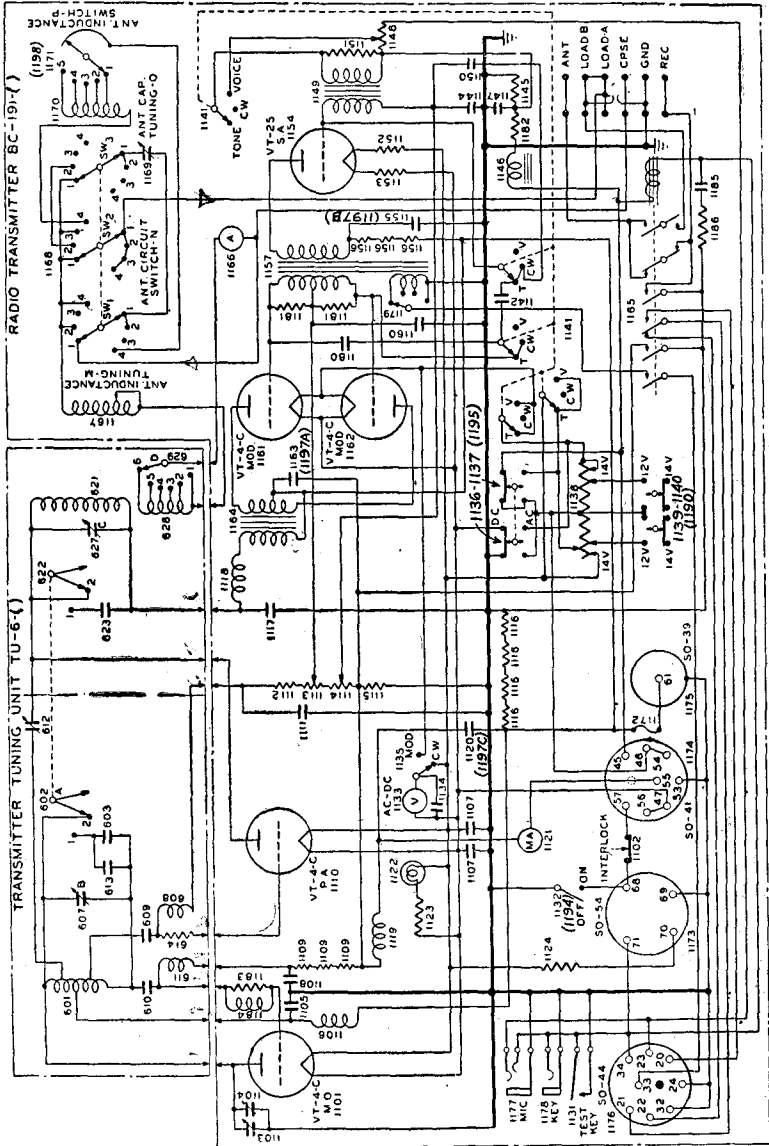

FIGURE 11.—Radio transmitter BC-191-(*) with transmitter tuning unit TU-6-A or B—schematic diagram.
b. The circuits of the various radio transmitters BC-191-(*) are for all practical purposes identical. The radio frequency circuit is of the master oscillator, power amplifier type. The audio frequency circuit consists of a push-pull modulator which is driven by an audio amplifier. The transmitter utilizes a tube VT-4-C for the oscillator, a tube VT-4-C for the power amplifier, two tubes VT-4-C in push-pull for the modulator, and a tube VT-25 for the audio amplifier (speech amplifier). (See fig. 11.) For continuous wave transmission, only the master oscillator, power amplifier, and speech amplifier tubes operate. For tone and voice transmission, all tubes operate. The power amplifier operates class C; the modulator tubes in push-pull operate class B; the audio amplifier driver tube operates class A. Sufficient audio frequency power is obtained from the modulator tubes for plate modulation of the power amplifier on tone or voice transmission. Side tone for monitoring purposes is supplied from the speech amplifier during continuous wave, tone, and voice transmission.
(3) Plate voltage for the power amplifier is applied through the modulation transformer 1164, the radio frequency choke coil 1118, and the tank coil 621. The capacitor 1117, in conjunction with choke coil 1118, prevents radio frequency currents from flowing into the power supply. The neutralizing capacitor 612 in the tuning unit forms a part of a bridge circuit, including the power amplifier grid plate capacitance. Balancing this circuit by means of capacitor 612 prevents any interaction of the power amplifier on its grid input circuit, thus eliminating the possibility of self-oscillation of the amplifier. All transmitter tuning units are properly balanced or neutralized at the time of manufacture and should not require adjustment in service unless the setting is accidentally disturbed. The power amplifier is inductively coupled to the antenna circuit by means of a tapped inductor 628, the taps of which are selected by a panel-controlled tap switch 629, ANTENNA COUPLING SWITCH D. Sufficient variation in coupling is provided to allow operation into a wide range of antenna reactances.
d. Tone, continuous wave, and voice operation.—(1) The TONE C. W. VOICE switch, 1141 (fig. 11), serves to select the desired type of transmission. It performs the following functions:
g. Filament circuit.—The transmitter is so designed that it can be operated from either a d-c source or an a-c source in connection with a power supply unit consisting of a high voltage rectifier for plate supply, a low voltage rectifier for the control circuits, and a transformer to furnish a-c filament supply. The A-C D-C switch 1195 (1136-1137) (fig. 11) performs the circuit changes to allow the transmitter to be operated from either source.